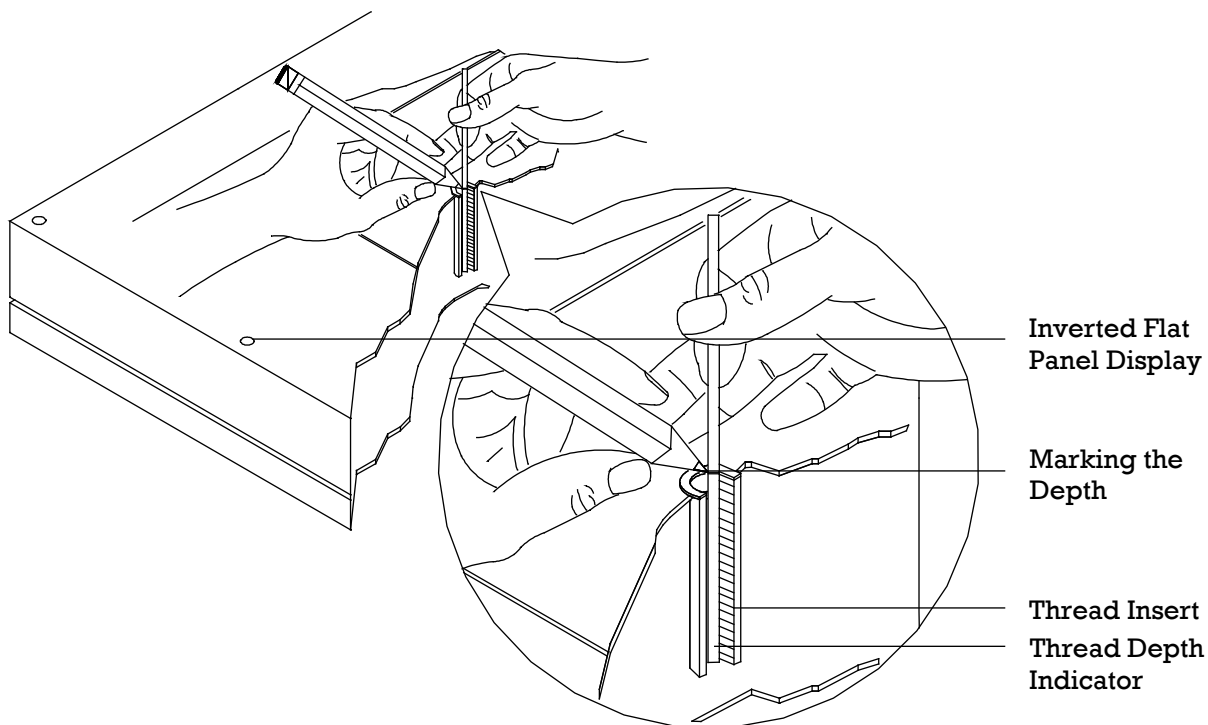

Figure 1
- Step 1.** Insert the thread depth indicator (supplied) through the thread inserts found on the back of the flat panel to make sure the inserts measure the same full depth and mark it (Figure 1).